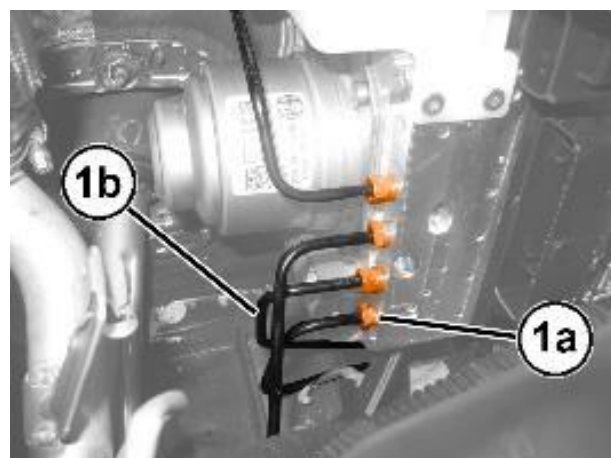

Figure 98 – Brake Fluid Pipes
42. Unscrew the connectors (1a) and disconnect the brake fluid pipes (1b) from the ABS control module (Figure 98).